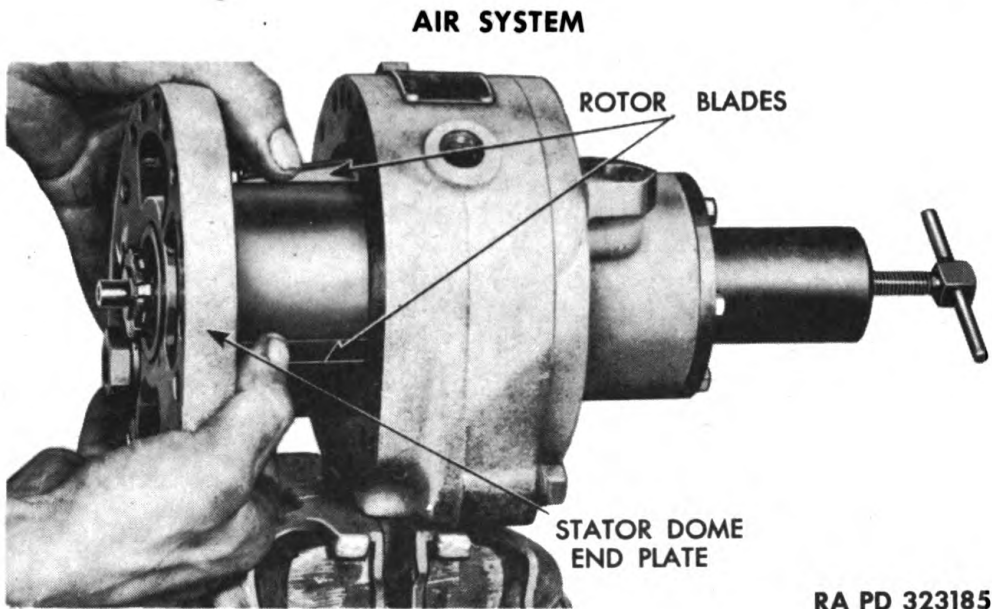

Figure 189 — Removing Stator Dome End Plate, Rotor, and Shaft
(10) REMOVE STATOR DOME END PLATE, BEARING, ROTOR ASSEMBLY, SHAFT, AND SEAL PARTS AS A UNIT. Pull two end plate dowel pins with dowel pin puller (fig. 187). Use a copper washer $\frac{3}{8}$ inch (I.D. x $\frac{3}{16}$ inch O.D) under dowel pin puller to protect the smooth surface on the end plate. Remove eight cap screws attaching end plate to stator. Remove six cap screws and lock washers attaching sealing cap to stator drive end plate and rear cap and gasket. Place end plate puller (41-P-2907-197) over end of shaft, and make secure to end plate with six cap screws (fig. 188). Turn puller screw and push out the end plate, bearing, rotor assembly, shaft, and seal parts as a unit from the stator (fig. 189). **NOTE:** As the rotor is withdrawn from the stator, the blades, blade springs, and pins will fall from the rotor. Care must be exercised not to damage in any manner the mating surfaces of the end plates and stator, as no gaskets are used and this is a metal-to-metal seal. Any mars or scratches may result in air or coolant leaks.